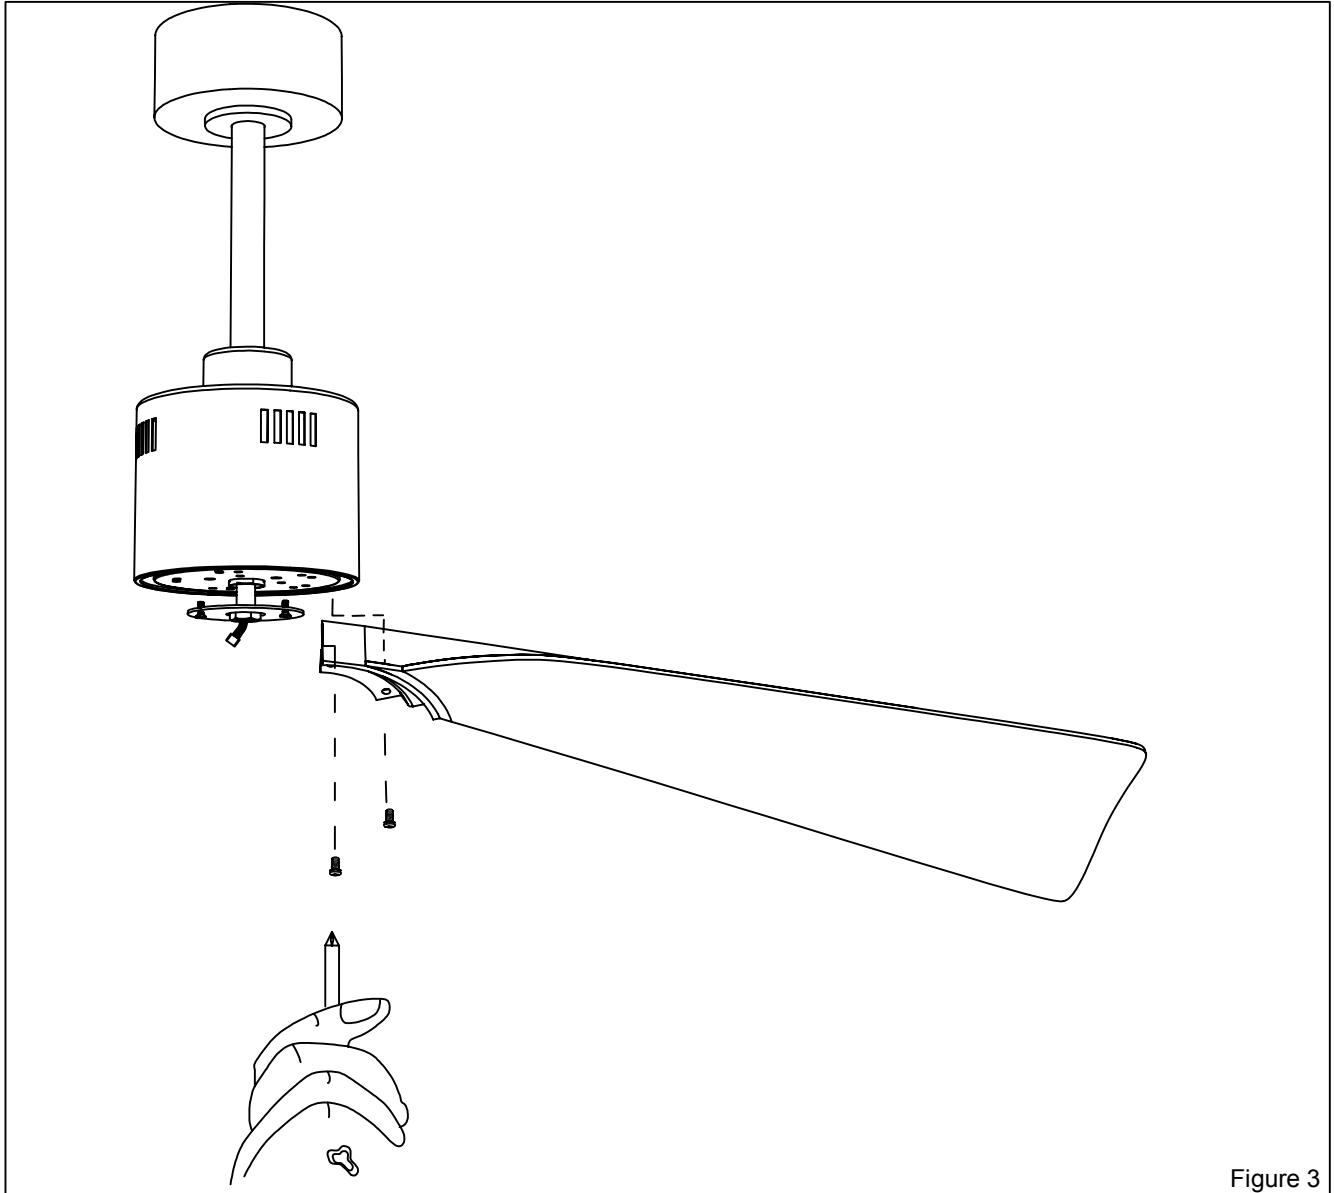

Figure 3
- Fasten the fan blades to the motor with screws in turn. (Figure 3)